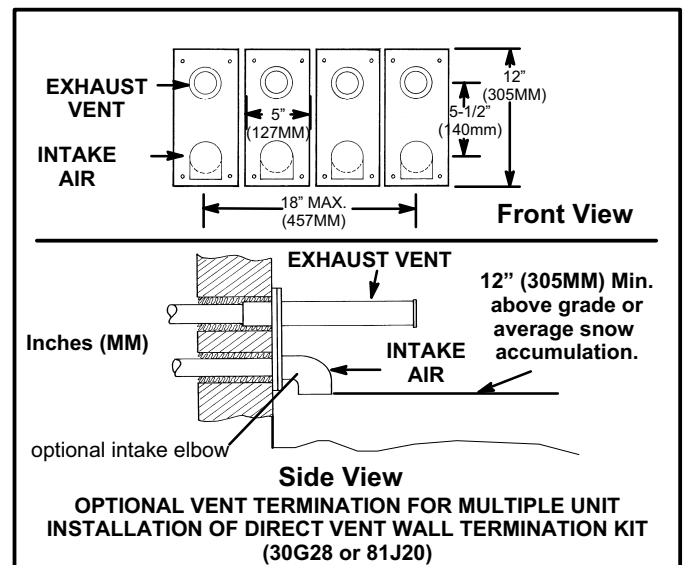

FIGURE 39
- 8 - A multiple furnace installation may use a group of up to four terminations assembled together horizontally, as shown in figure 39.